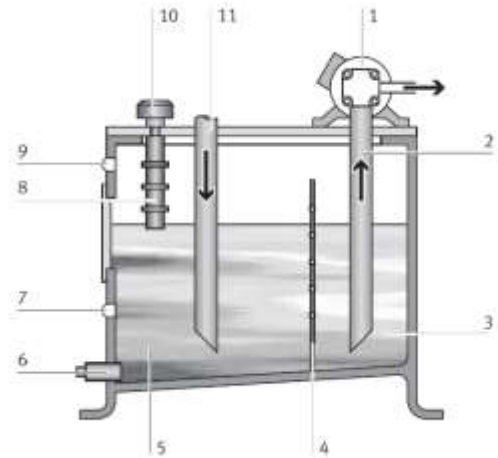

Figure 2
- Match up the individual components of the hydraulic power unit with the corresponding numbers in the Figure 2